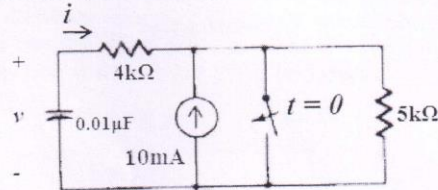

Figure: 1
- b) Find  $i(0^+)$  in the circuit shown in Figure 1.